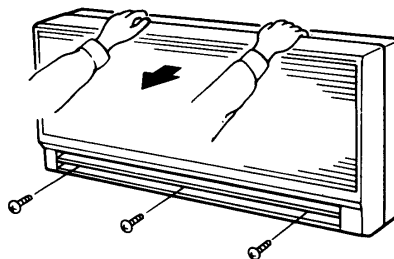

Fig. 1
- 2) Pull up the casing by hand, press down on tabs on top, then withdraw the casing by pulling it back straight. Fig. 1.